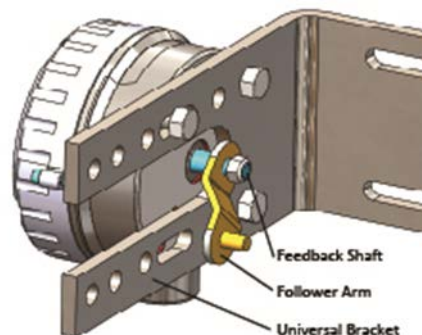

Figure 3: Valtek Rotary Follower Arm
- 3 Attach follower arm to positioner feedback shaft using the star washer and 10-32 nut. (Figure 3)
- 5 Using four 1/4-20 x 1/2" bolts, fasten remote mount unit to universal bracket using appropriate hole pattern (stamped on bracket). (Figure 3)